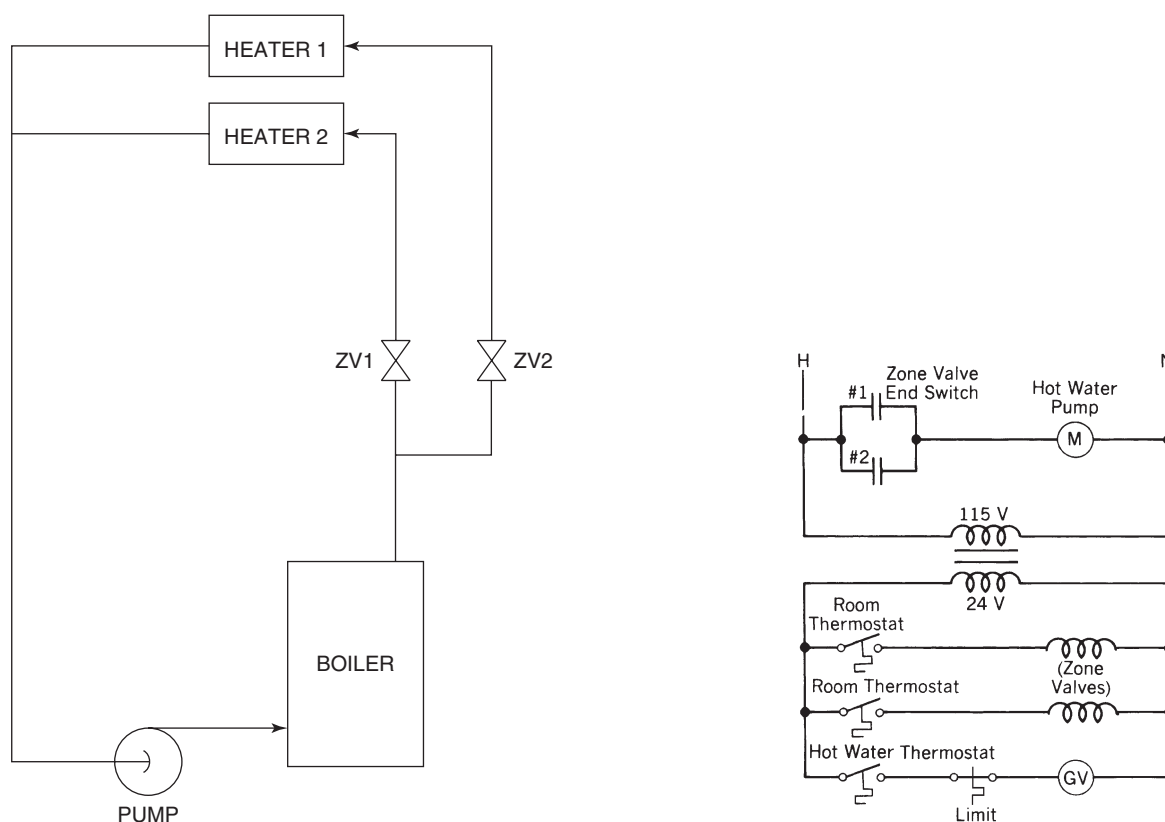
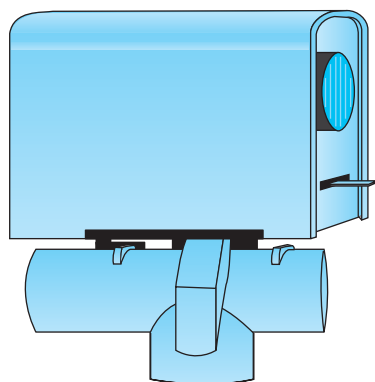

FIGURE 23-4 Boiler with zone valves.
FIGURE 23-5 Zone valve.
Figure 23-4 shows a boiler system that has two different zones of control, operated by two different thermostats. It would be common to find the upstairs of a house as one zone, and the downstairs as the second zone. Each zone has its own zone valve (Figure 23-5). When the thermostat closes, it
2. Referring to Figure 23-4, does the position of the room thermostat have direct control over the gas valve?
3. Referring to Figure 23-4, will the hot water pump come on if only one room thermostat is closed?